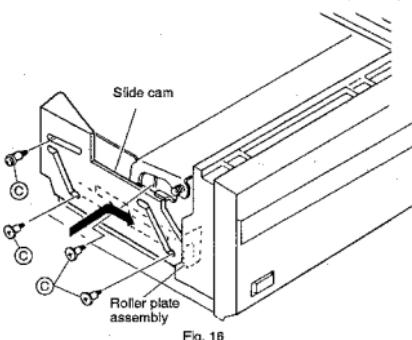

Fig. 16
② Tighten four screws Ⓒ to install the slide cam. (Fig. 16)